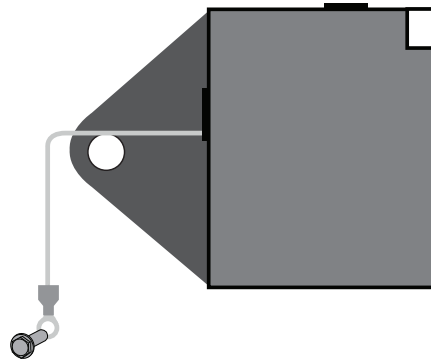

fig. 14
- Attach a ground terminal to the small white wire coming out of the back of the ECU/ Display Connector (Fig. 14).